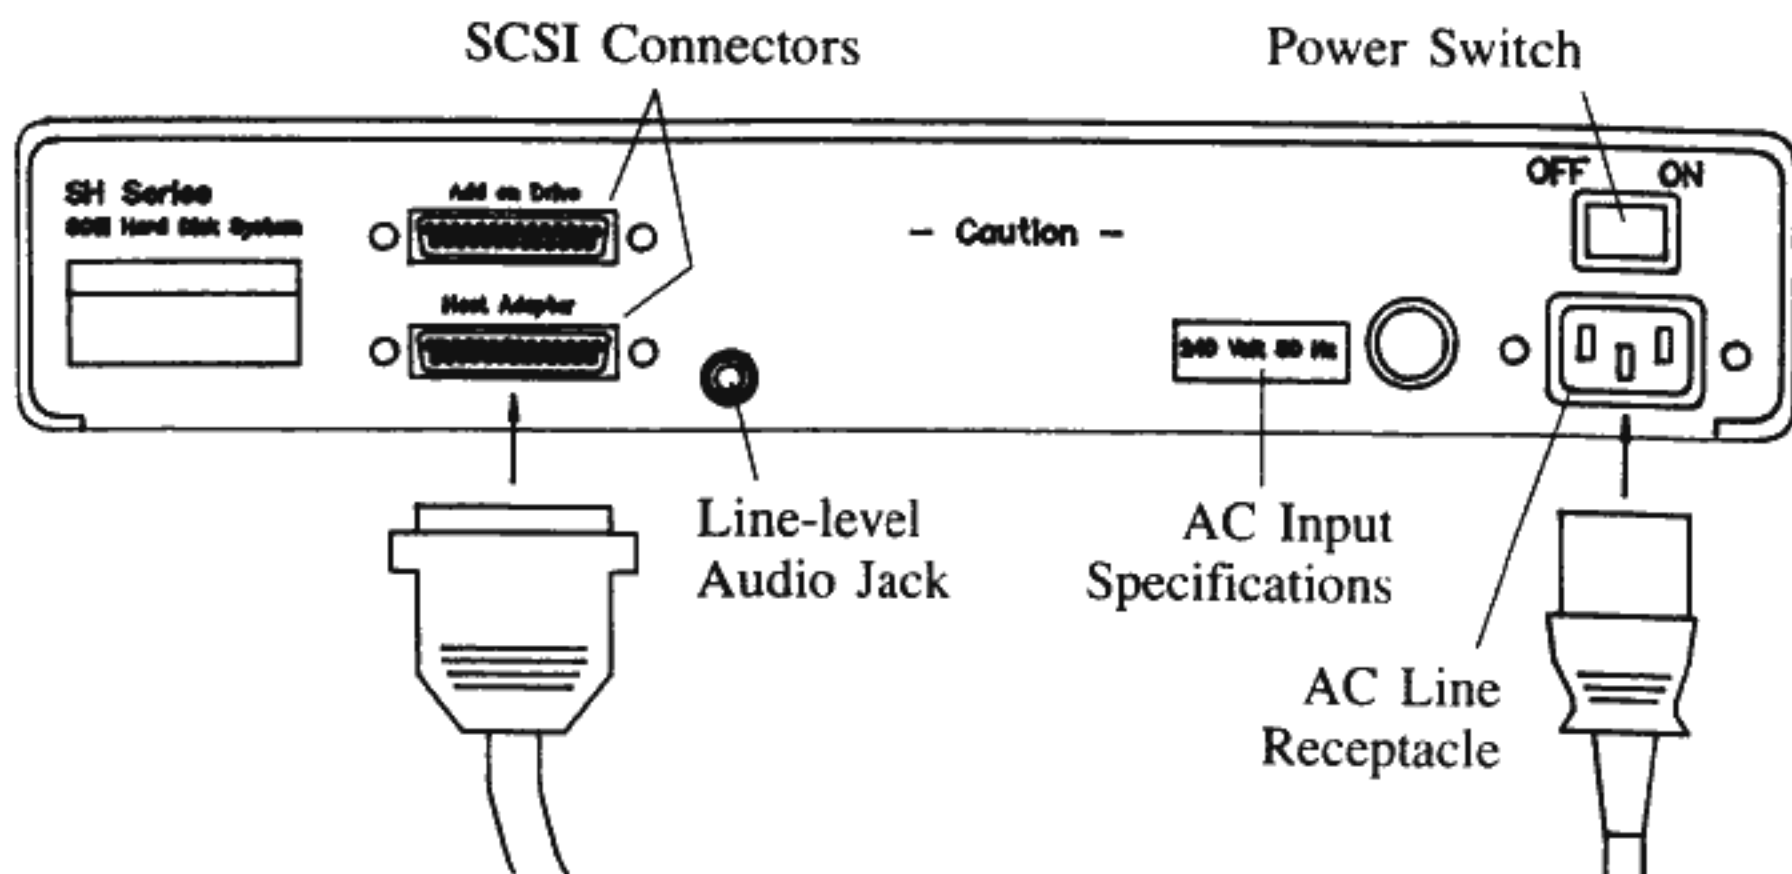

Fig. 12 - CDx-650LE Back View
- 5) Attach the other end of the included cable to one of the connectors on the back of the CD-ROM drive. See Fig. 12. Again, secure the cable with the attached screws.
Check the ratings marked on the back of the enclosure near the AC receptacle (see Fig. 12) before plugging in the unit.